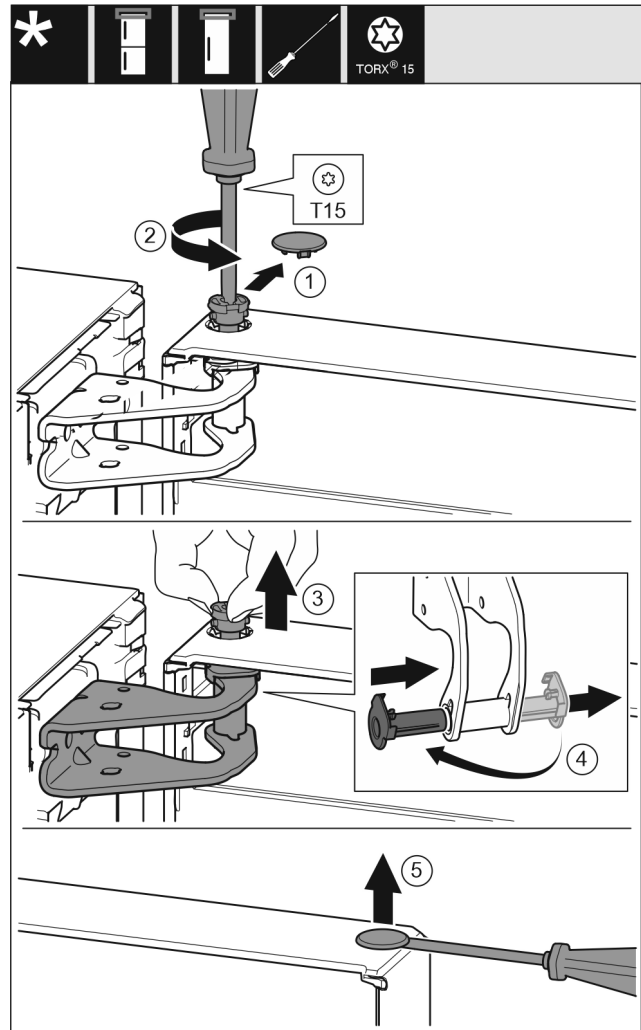

Fig. 6
- Carefully remove the protective cover. Fig. 6 (1)
- Loosen the bolts slightly with a T15 screwdriver. Fig. 6 (2)
- Hold the door and remove the bolts with your fingers. Fig. 6 (3)
- Pull the bearing bush out of the guide. Insert from the other side and latch into place. Fig. 6 (4)
- Carefully lift the plugs out of the door bearing bush with a slotted screwdriver and remove them. Fig. 6 (5)